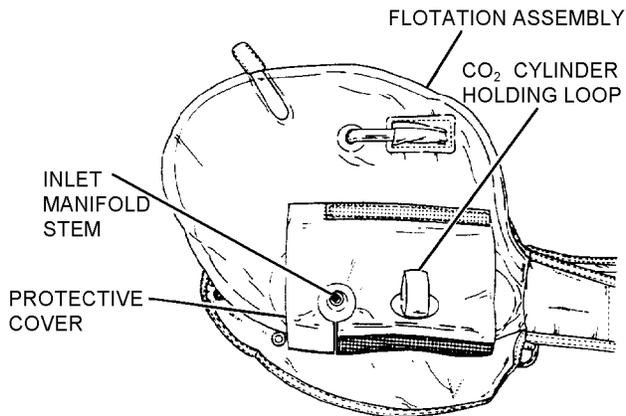

Figure 27-7. Installation of Inflation Valve Protective Cover
2. Place inflation valve protective cover upon the life preserver. Ensure that inlet manifold stem hole and CO₂ cylinder holding loop hole are aligned according to figure 27-7.